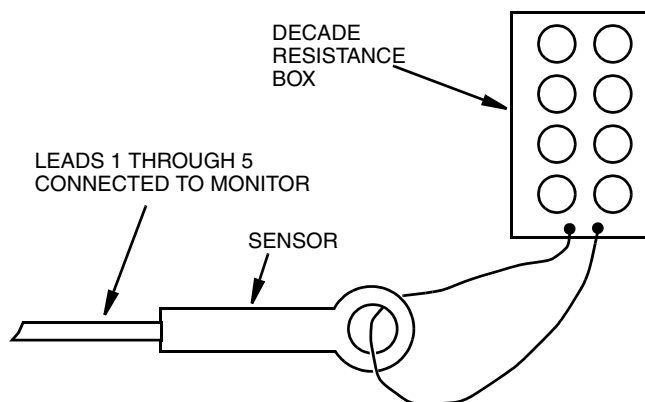

Figure 27. Sensor/Decade Box Configuration for Calibration
- a. Suspend the clean dry sensor in the air (see Figure 27). An open loop (Infinite Resistance) is used to calibrate at 0 $\mu\text{S}/\text{cm}$ or 0 mS/cm .
- d. Route resistance loop from a decade box through sensor as shown in Figure 27.
The resistance values calculated in the preceding formulas assume a single loop (or turn) through the sensor as shown in Figure 27. When extremely small resistances are required and are not available using equipment at hand, the user may loop the decade box wire several times through sensor and then multiply R_L by square of the number of loops used.